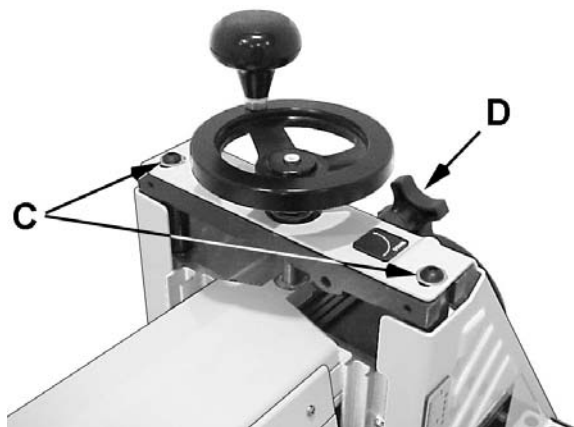

Figure 7
1. Loosen the two *socket head button screws* (C, Fig. 7).
3. Adjust the *knob*, (D, Fig. 7) until the drum contacts the gauge equally along its entire surface. Turn the adjusting knob counterclockwise to lower the outboard end of the drum, and clockwise to raise the outboard end of the drum.
If a ridge is visible where the drum overlaps, loosen the two *socket head button screws* (C, Fig. 7) and turn the *adjusting knob* (D, Fig. 7) slightly. Turn the adjusting knob clockwise to lower the outboard end of the drum and counterclockwise to raise it. Tighten the two hex cap bolts. Repeat this process until the ridge is gone and the entire board is sanded.